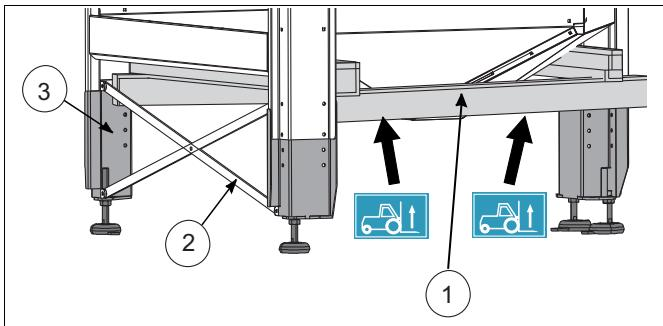

fig. 9 Transport frame
1. Lift the machine by forklift truck or pallet wagon, and move the packaged machine to the desired location. Use a transport frame **1** for this (See fig. 9 with forklift icons for correct placement).